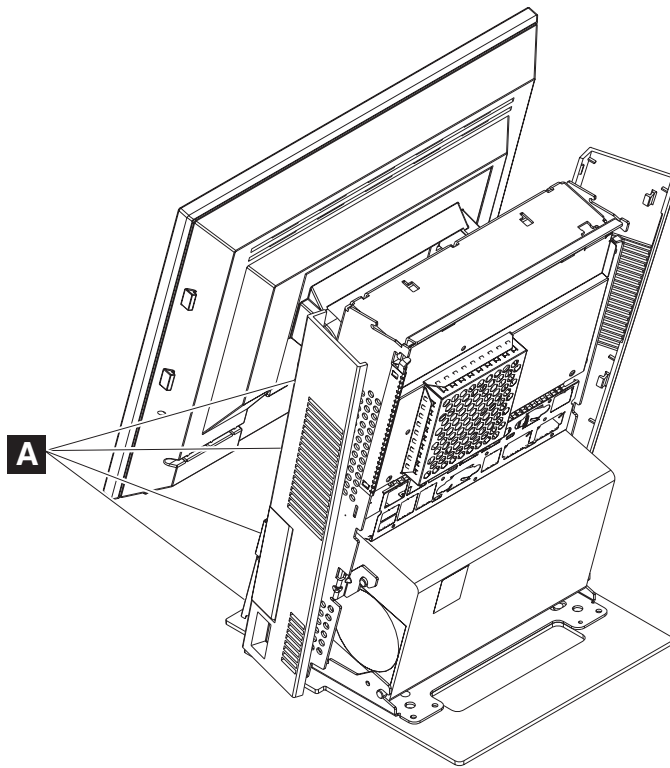

Figure 22. Removing side covers
5. From the front of the system, use a flat-bladed screwdriver to pry open four latches on the front of each side cover **A**, as shown in Figure 22.